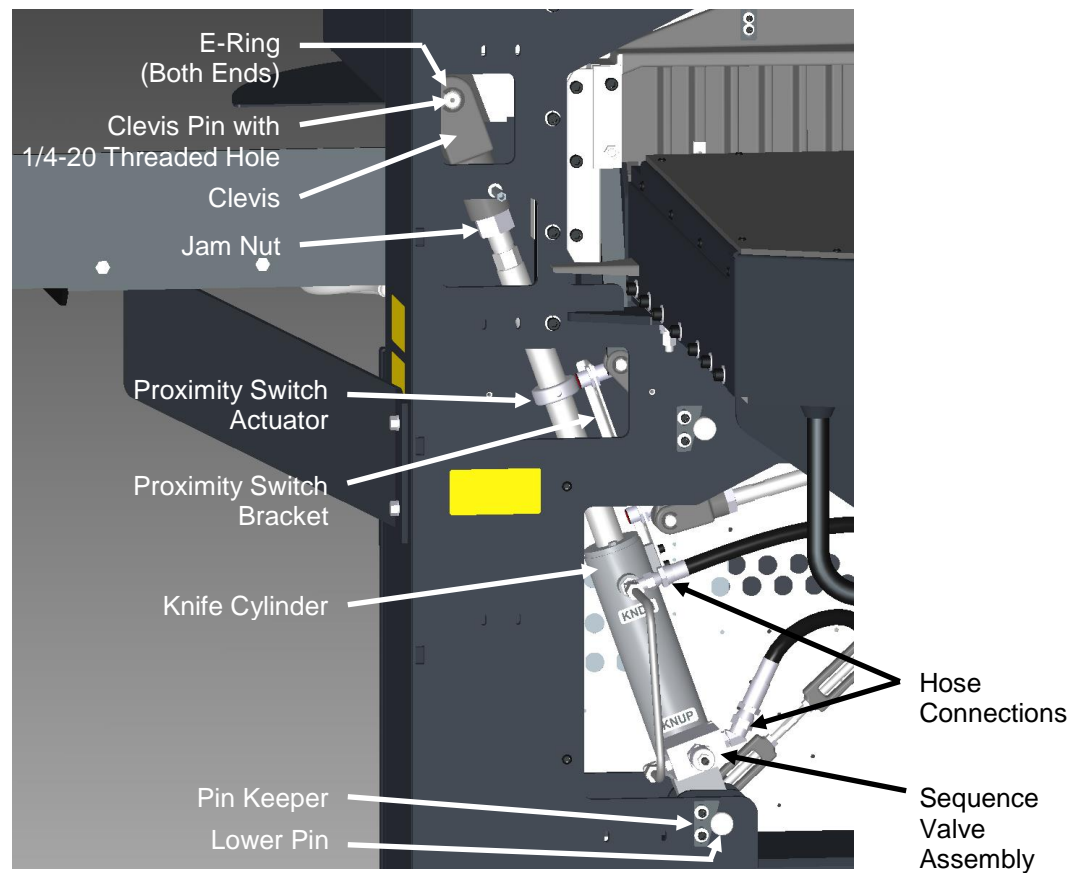

Figure 46
5. Place a pan underneath the cylinder and gradually loosen and remove the hydraulic hose connections (Figure 46). Loosen the connections **slowly** to bleed off any trapped pressure.
6. Remove the clevis pin out of the knife bar and clevis by first removing the front E-style retaining ring on the pin (Figure 46). The pin has a 1/4-20 tapped hole in it to aid removal of the pin out of the knife bar and clevis. It may also be helpful to use the pry board to block up the knife bar, releasing pressure from the pin to make it easier to remove.
7. Now, remove the pin keeper on the lower pin (Figure 46, previous page). Then carefully tap the pin out of the cylinder.